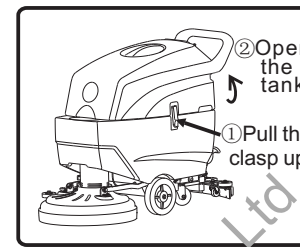
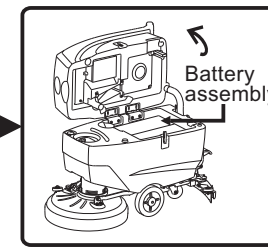

fig.2
fig.3
- 2.Turn the tank to the floor as shown and put the batteries on top of the assembly plate(fig.2& fig.3).